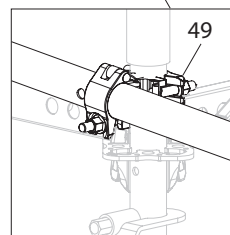

Fig. A15.06a
2. Install the inner tube or scaffolding tube on the standard (12) with a swivel coupling (49). Tighten the swivel coupling. (Fig. A15.06a)